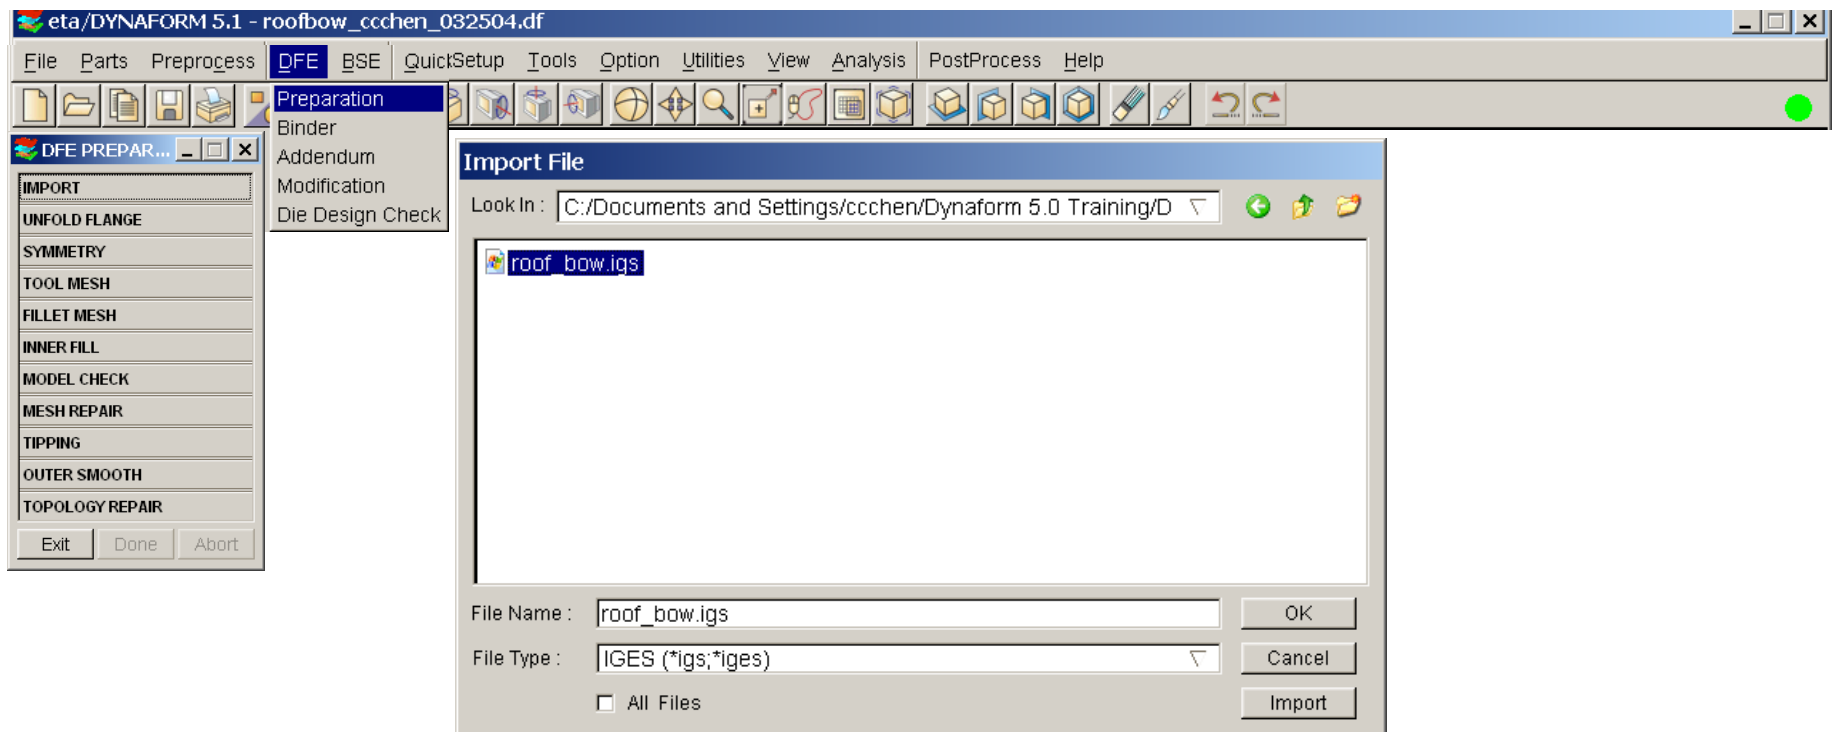

Figure 2.1
- a) Click on *DFE* (See Figure 2.1)